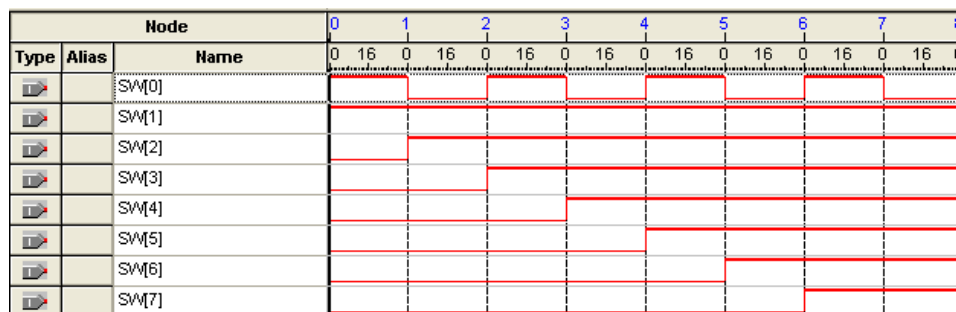

Figure 23. Possible waveforms that could result when using the Segmented Acquisition mode.
- Go back to the SignalTap II window and click Run Analysis. Now, flip SW[0] up and down, and in between flips change the values of the other 7 switches. After you have done this 8 times, the values in the buffer will be displayed in the data window, and this will display the values that the 8 switches were at around each trigger. A possible waveform is presented in Figure 23. This resulted from the user flipping up one more switch between each flip of SW[0].